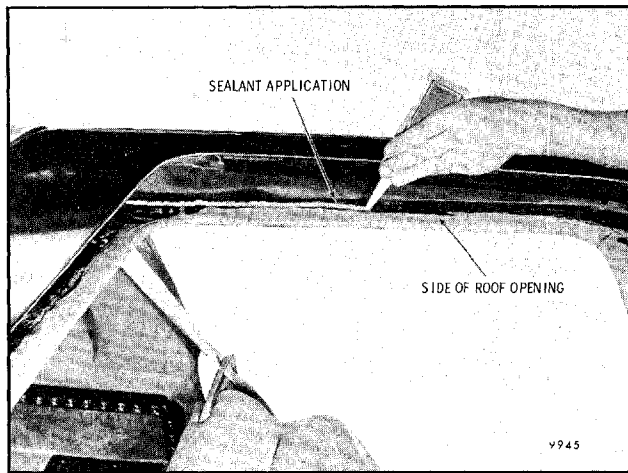

Fig. 8-115-Sealant Application
3. Apply a bead of RTV sealant, part number 1051435 or equivalent along headlining area of roof opening (Fig. 8-115).